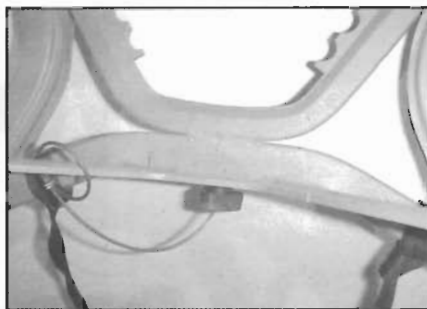
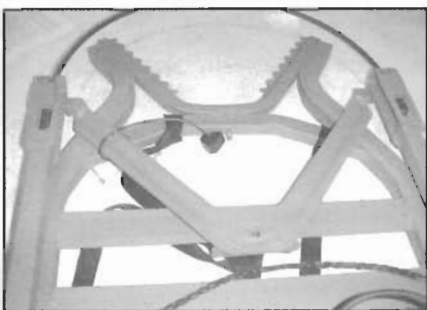

Fig. 24
Fig. 25
A. The Bullet or Broadhead Backpacker and Bullet or Broadhead Backpacker Seat are lightweight and easy to carry as one unit. You must first fold the pivoting V-brace down flat on the seat and platform. To do this, simply unscrew the threaded knob that held the pivoting V-brace in place as shown in **Figure 24**. Now rotate the pivoting V-brace towards the front edge of the platform as shown in **Figure 25**. Lay it flat and screw the threaded knob back onto the bolt. You must fold the pivoting V-brace on the seat and platform prior to packing.